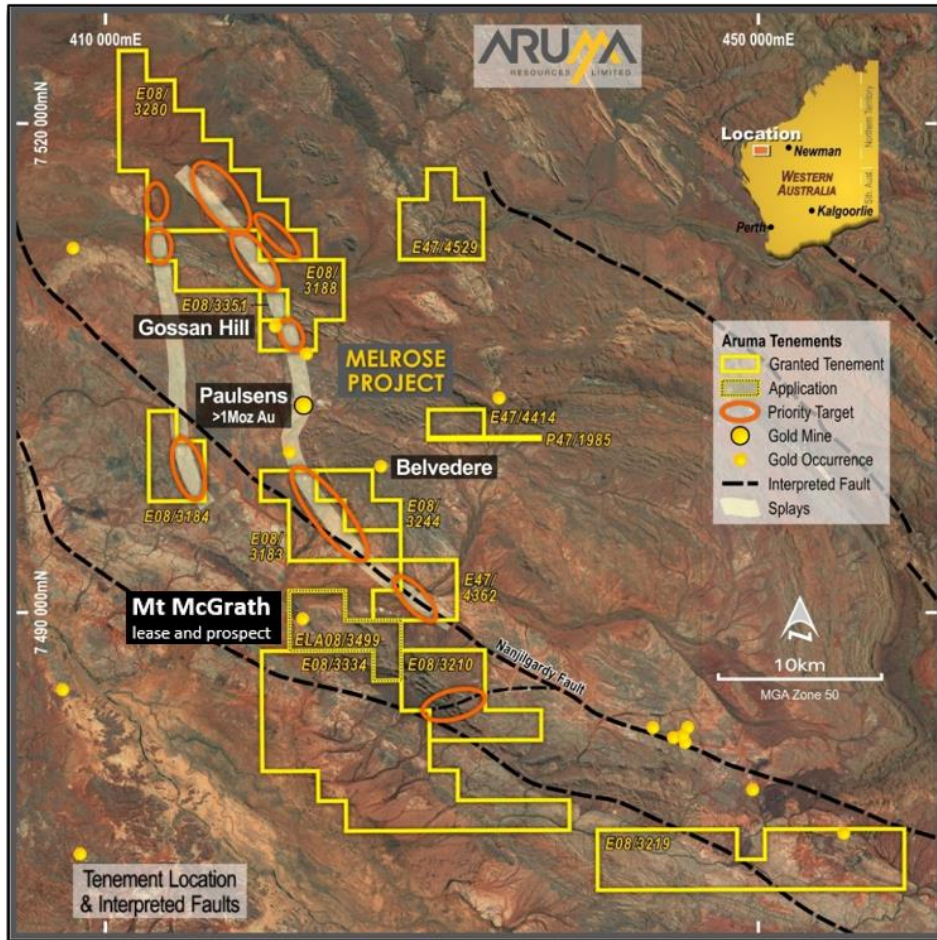

Figure 1: Melrose Project lease plan – with Gossan Hill and Mt McGrath Au location on E08/3499
Aruma completed a 48 hole 4,784m reverse circulation (RC) drilling program at the Melrose Project (ASX announcement, 7 November 2022), which targeted the Gossan Hill prospect located 5km from the Paulsens Gold Mine (acquired by Black Cat Syndicate (ASX: BC8) from Northern Star Resources (ASX: NST)) (Figures 1 and 2).